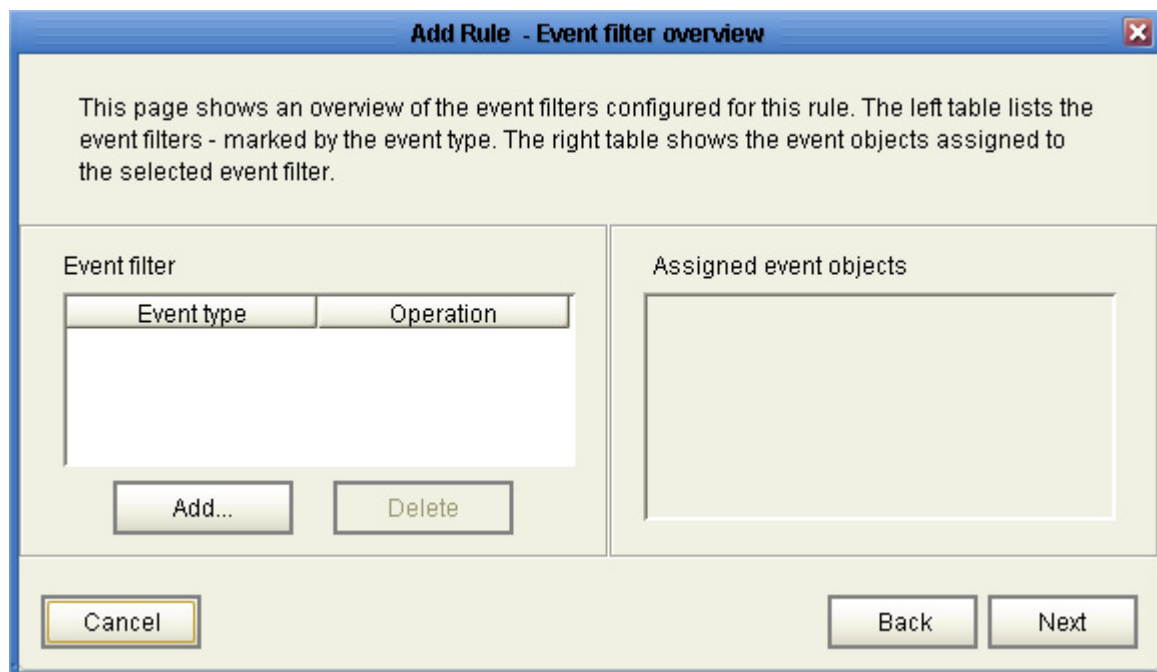

Fig. 113 "Add Rule – Overview of event filters" dialog box
- The previous dialog box will be displayed again (see Fig. 113).